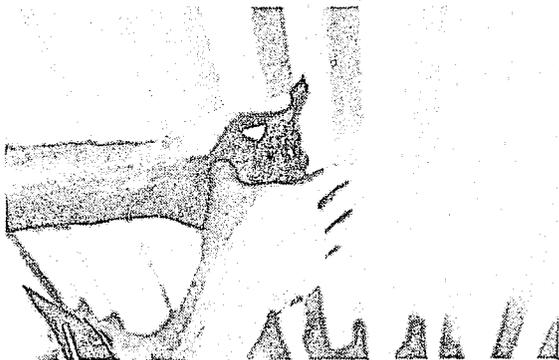

Figure 6-13
a. Place the webbing of the hand as high on the frame as you can. Cover the top of the back strap. (See Figures 6-13 and 6-14)